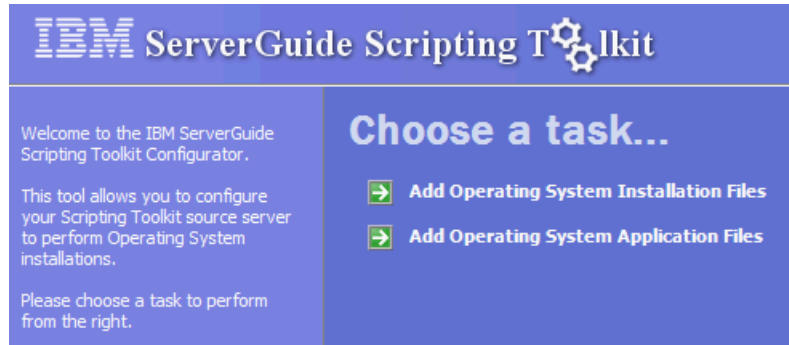

Figure 6-42 Main window
2. Select **Add Operating System Installation Files**, as shown in Figure 6-42 on page 267.